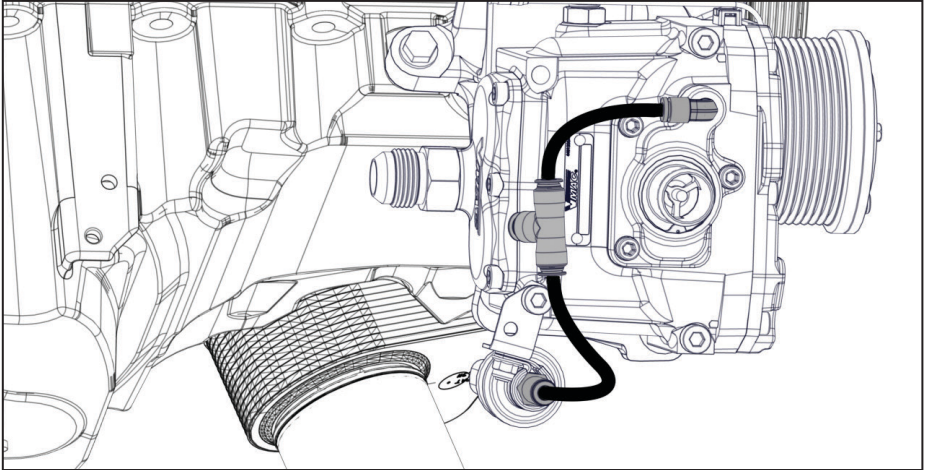

Figure 33 — Connect PTFE tubes
- From the 24 in spool of 1/4 in PTFE tubing, connect the scavenge tube to the compressor, pressure switch assembly, and Union Tee (Figure 33).